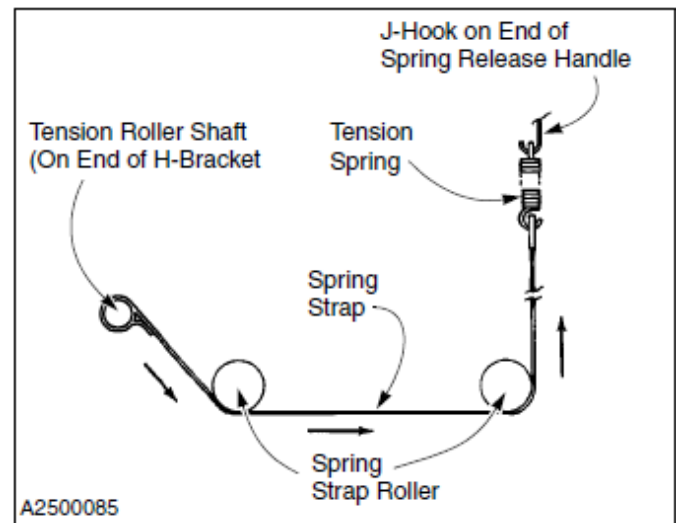

Figure 71
4. Remove the existing spring strap by unhooking one end from the spring release handle. Then release the other end from the tension roller shaft. (See Figure 71)
5. Install the new spring strap in the reverse order the old strap was removed. Route the strap in the direction as shown in Figure 71.